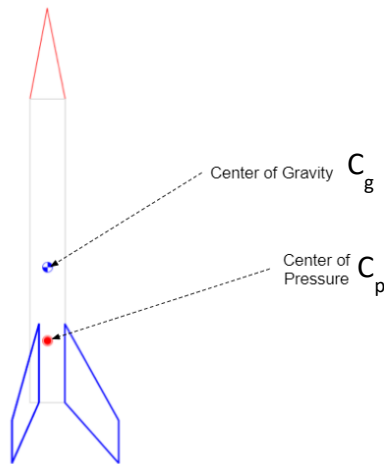

Figure 1. Center of pressure and center of gravity acting on the rocket.
Rocket stability (S) is the ability of a rocket to keep itself upright while flying. The two points on a rocket that determine stability are the **center of pressure (C_p)** and **center of gravity (C_g)**. The center of gravity is the approximated point where the force of gravity acts on the vehicle, while the center of pressure is the approximated point where the sum of the forces of pressure on the vehicle act. Below are diagrams that demonstrate the locations of these points in Figure 1: